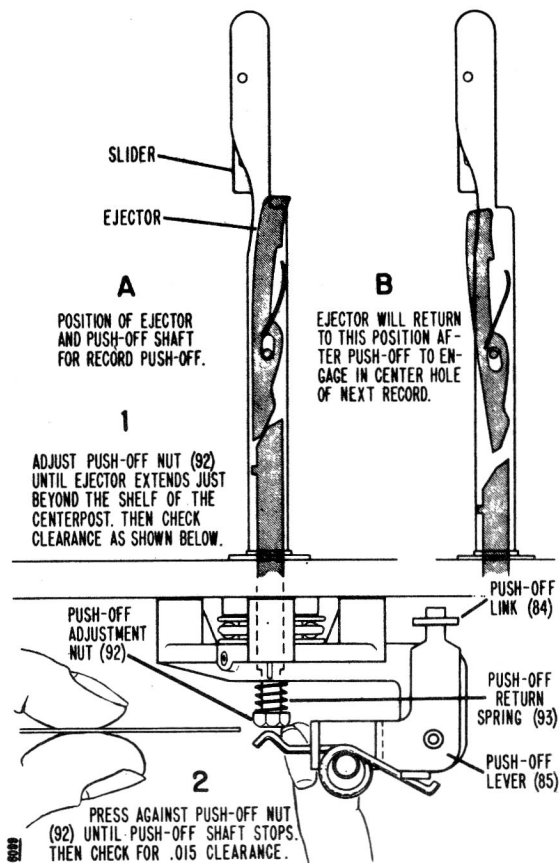

Figure 3. Adjusting For Correct Push-Off.
If the centerpost slider (see figure 3) does not move freely on the record changer, then more than one record at a time may drop to the turntable. To correct this condition, the centerpost slider should be cleaned with carbon tetrachloride and lubricated with a light machine oil. If this does not correct the difficulty, the spring within the record ejector and spring assembly (122), may have lost its tension, and it should be bent to increase tension or be replaced.